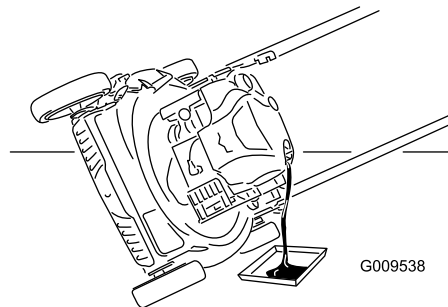

Figure 22
4. Tip the mower onto its side with the air filter up to drain the used oil out through the oil fill tube (Figure 22).